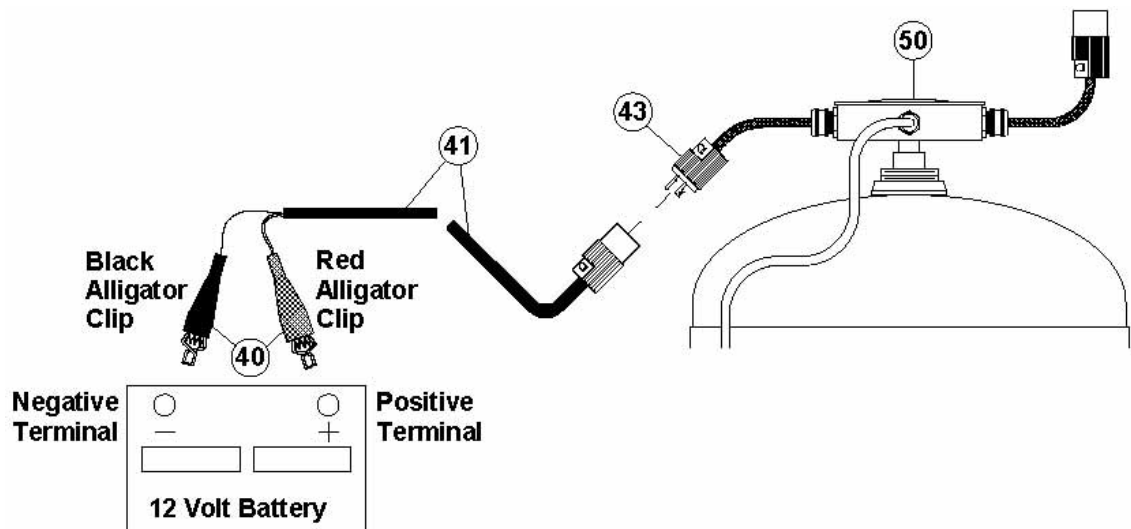

Figure 6.1 – Electric power connection
6.1.16. Connect the electric power cord alligator clips (#40) to the air compressor battery terminals or to another 12Vdc power source. See Figure 6.1.